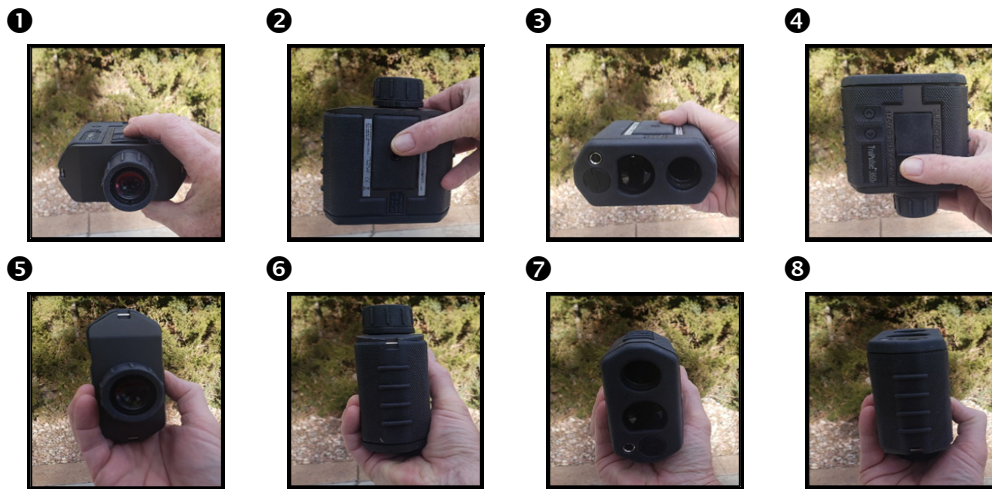

Figure 12
**NOTE** At each laser position, starting with ❶ (shown in Figure 12), press Fire and wait about one second before shifting the laser to the next position: